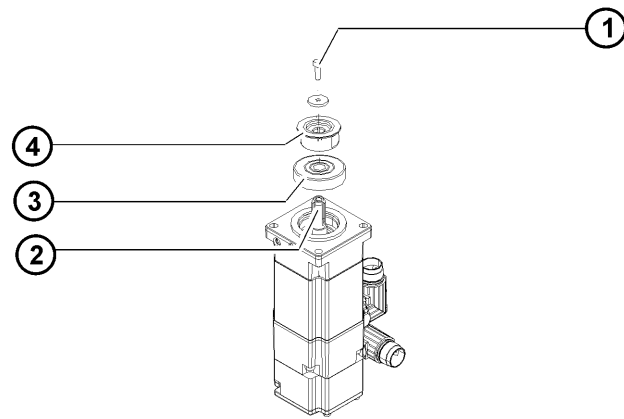

Fig. 11-15: Motor with toothed belt pinion
1. If necessary, remove all protective coatings and oil from the new motor A6 (>>> Fig. 11-15).